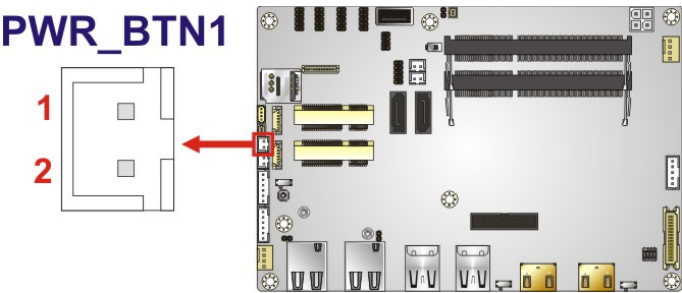

Figure 3-17: Power Button Connector Location
- CN Location: See Figure 3-17